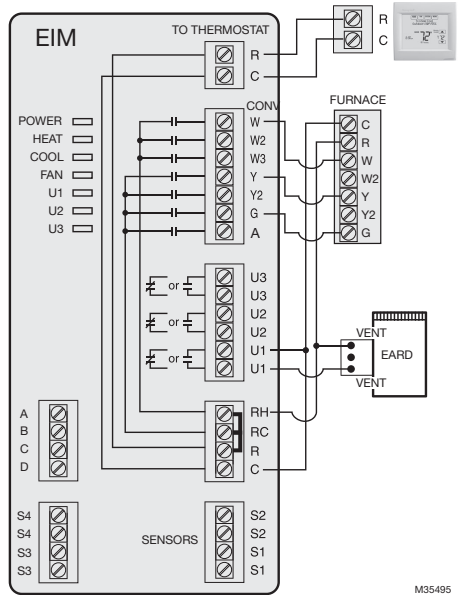

**Fig. 2. 3-Wire Operation (Red and Green LEDs).**
- For 3 wire usage, break the plastic tab to access M4. See Fig. 2.